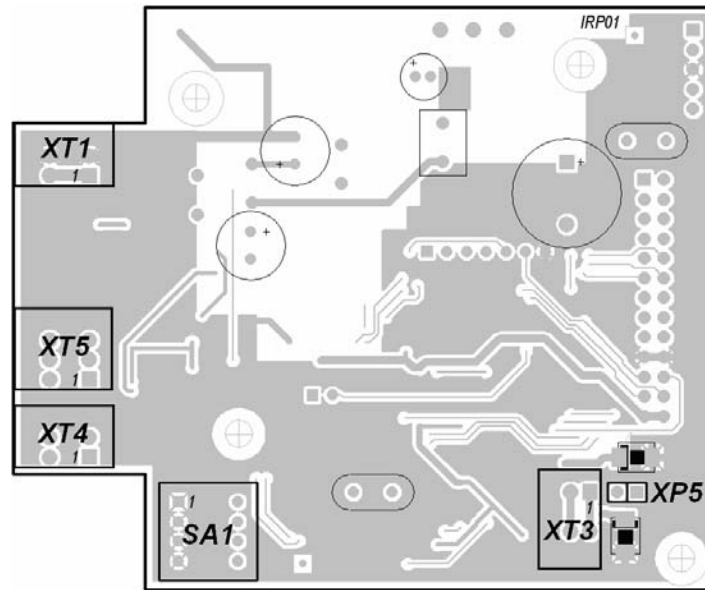
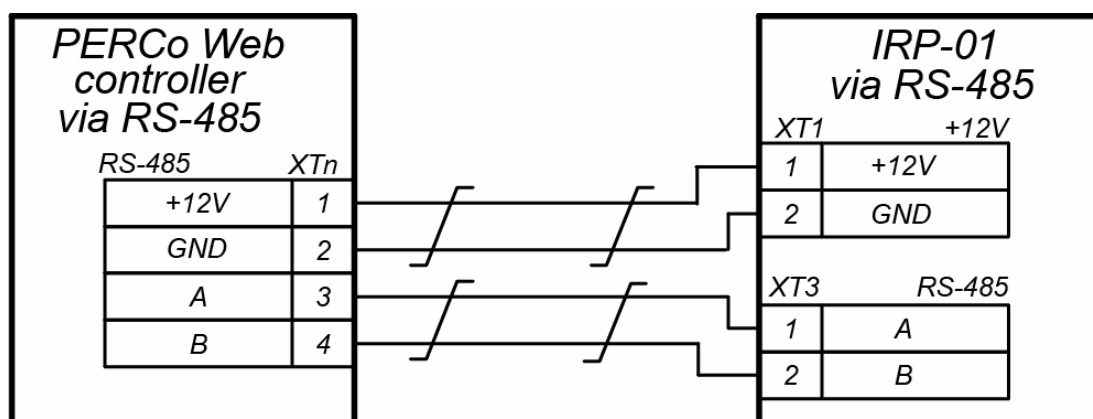
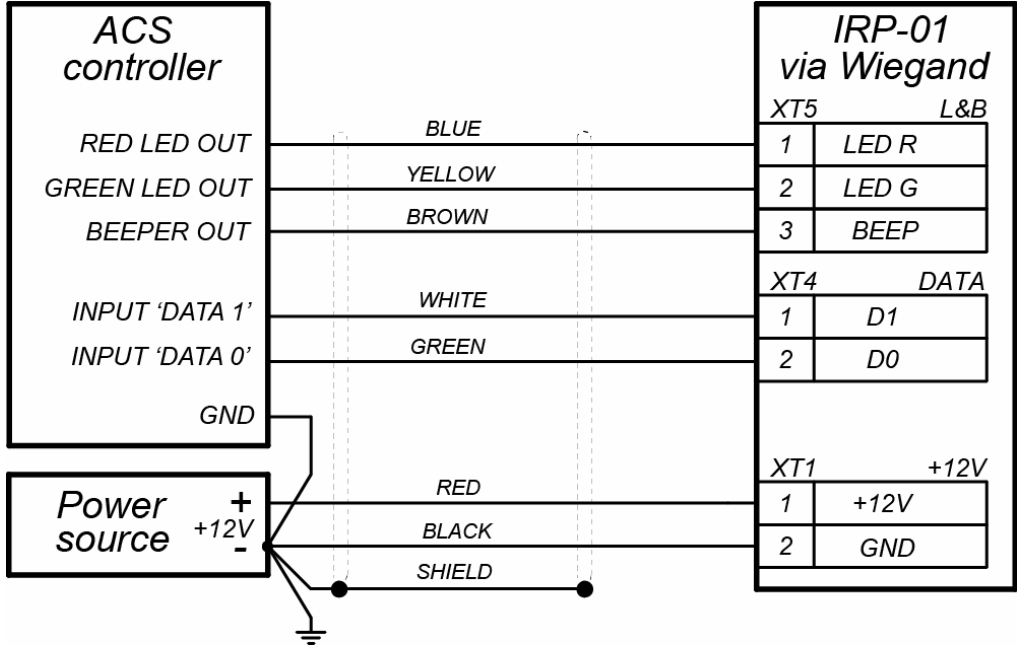

Figure 2. The board of the reader
Figure 6. Connection layout for RS-485 interface of PERCo Web controller
Figure 7. Connection layout for Wiegand interface of ACS
The board of the reader is shown on Fig. 2.
The interface of the reader is chosen with the use of switch №1 of DIP-switch **SA1**, located on the board of the reader (see Fig. 2):
To operate the reader in *RS-485* mode the switch №1 of DIP-switch **SA1**, located on the board of the reader (see Fig. 2), shall be set in *ON* position. When the reader is connected via *RS-485* interface, it can be used as an external reader for **PERCo Web** controllers.
The number is selected with the use of switch 2 of DIP-switch **SA1**, located on the board of controller (see Fig. 2), in such case switch 1 shall be set in *ON* position. Number of reader is determined according to Table 1.
To operate the reader in *Wiegand* mode the switch 1 of DIP-switch **SA1**, located on the board of the reader (see Fig. 2), shall be set in *OFF* position. If the reader is connected to *Wiegand* interface, it can be used as an external reader for ACS controllers.
During the operation of ACS controllers LCD shows the same indication as depicted in Section 5.1.2. There are two possible options to control indication: «*single line*» and «*double line*». The option is selected with the use of switch 2 of DIP-switch **SA1**, located on the board of the reader (see Fig. 2), in such case switch 1 shall be set in *OFF* position. Indication control option is determined according to Table 2.
Control signals in case of «single line» mode are transmitted via the line that is connected to *Led R* contact (see Fig. 7) of *XT5* connector on the reader board (see Fig. 2). In case of «double line» mode control signals are transmitted via two lines connected to *Led R*, *Led G* contacts of *XT5* connector on the reader board. To control sound indication of the reader with ACS controller it is necessary to connect the wire that is connected to *Beep* contact of *XT5* connector with the negative terminal of power supply unit. Indication of reader is given in 3 according to control signals received by the reader.
Wiegand output data format is selected with the use of switches 3 and 4 of DIP-switch **SA1**, located on the board of the reader (see Fig. 2), in such case switch 1 shall be set in *OFF* position. *Wiegand* format of the reader is determined according to Table 4.
12. Lay the cable inside the reader post, fix it and connect it to the board of the reader according to connection layouts shown on Fig. 6 or Fig. 7.
14. Connect the cable to the PERCo Web controller or ACS according to layout given on Fig. 6 or Fig. 7.